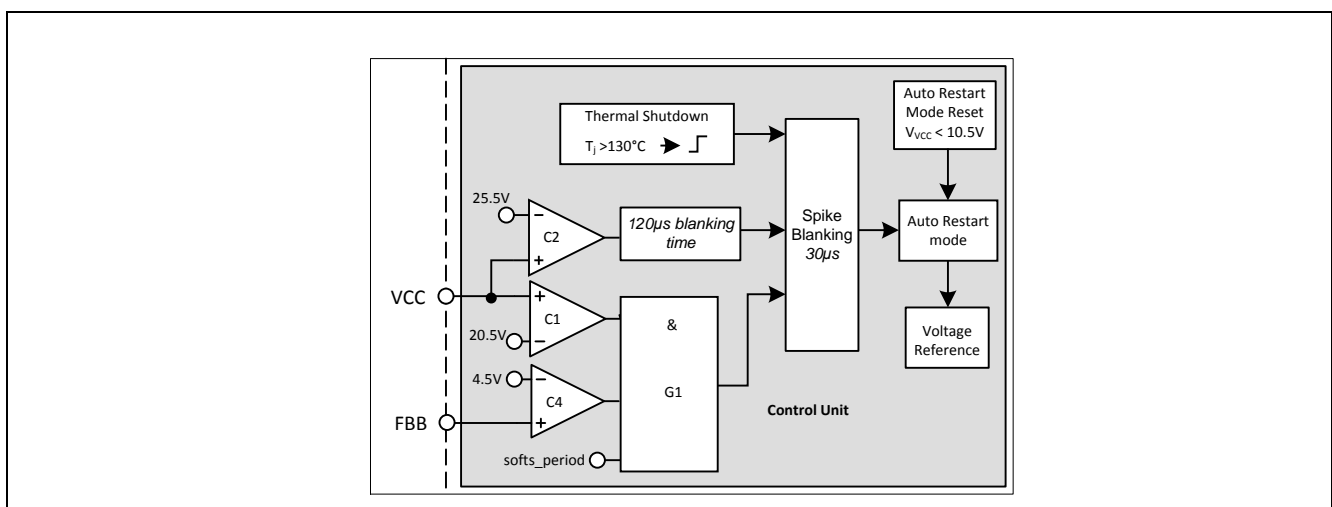

Figure 30: Vcc OVP and OTP
Vcc OVP (1) condition is when VVCC voltage is > 20.5V, VFBB voltage is > 4.5V and during soft start period, the IC enters into odd skip Auto Restart Mode. This condition likely happens during start up at open loop fault (Figure 30).
Vcc OVP (2) condition is when VVCC voltage is > 25.5V, the IC enters into odd skip Auto Restart Mode (Figure 30).
The over temperature protection OTP is sensed inside the controller IC. The Thermal Shutdown block keeps on monitoring the junction temperature of the controller. After detecting a junction temperature higher than 130°C, the IC will enter into the non switch Auto Restart mode. The ICE3AR2280VJZ has also implemented with a 50°C hysteresis. That means the IC can only be recovered when the controller junction temperature is dropped 50°C lower than the over temperature trigger point (Figure 30).